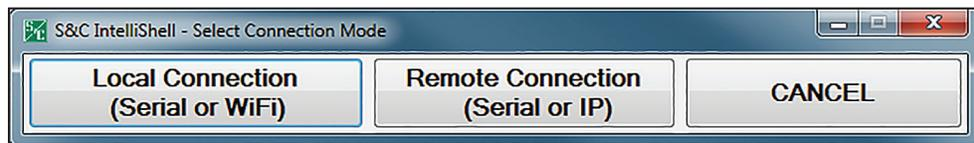

Figure 11. The IntelliShell connection program—Select Connection Mode dialog box.
STEP 4. Select the **Local Connection** option. See Figure 11.